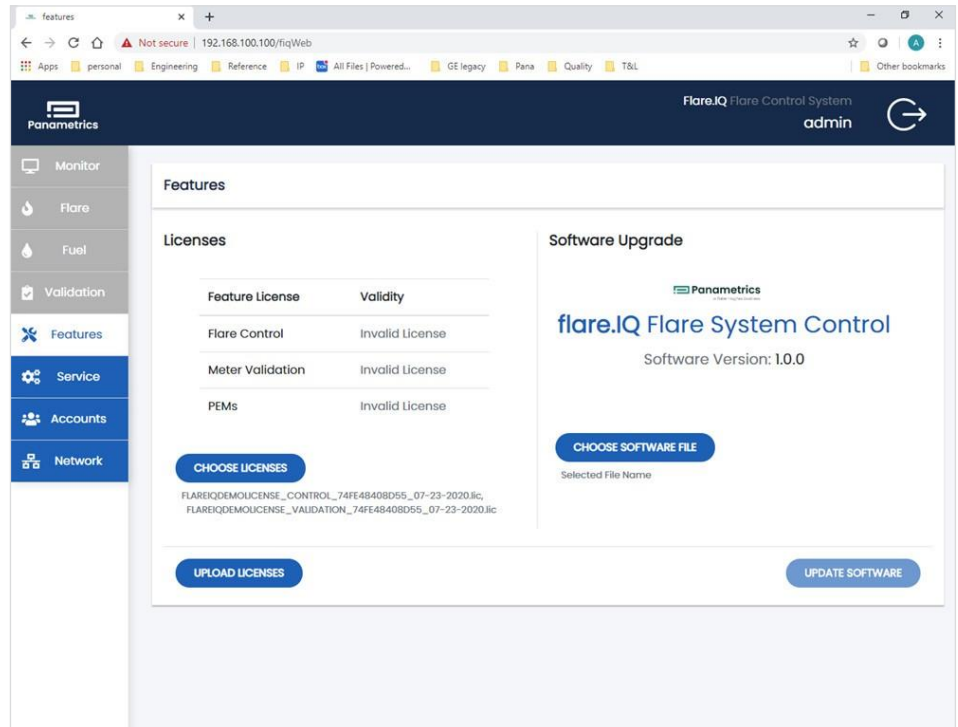

Figure 12: Web console service page upon initial login prior to installation of any valid licenses
The web console is designed to work with Chrome and Firefox browsers and is optimized for a screen resolution of 1280 x 1024. Upon initial log in with the default administrative password, the user is led to the service tab from where they can navigate to the features tab shown in figure 12 to upload appropriate software licenses.
**Software license files that provide access to one or more of the three features listed on this page for a pre-determined duration can be obtained from your Panametrics service engineer. Please note these encrypted license files are tied to the specific DPU hardware on your flare.IQ Gen 2 system. These license files can be uploaded from the host PC connected to the flare.IQ by selecting the files using the “choose licenses” button and uploading them using the “upload licenses” button as shown in figure 12.**